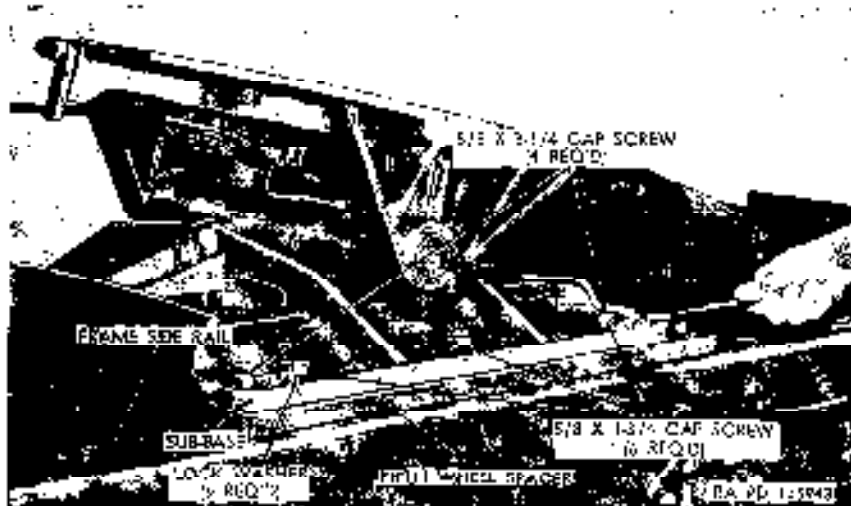
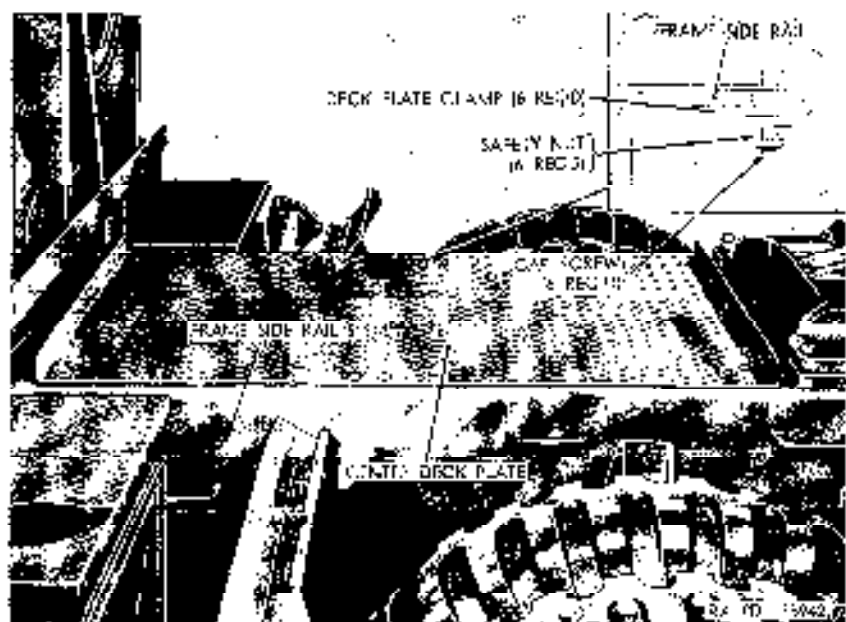

Fig. 319. Top front view of fifth wheel M52.
Figure 221. Top view of center deck plate M50.
for deck plate (Fig. 221) (M52 only). On the tractor truck M52, the approach plate and center deck plate are bolted directly to the frame left and right side rails. The fifth wheel is bolted to the side rails and fifth wheel spacers (Fig. 319), which are bolted to the side rails. On the tractor wrecker truck M248, the approach plates are a part of the crane body, and the fifth wheel is bolted to both the crane body side rails and the truck-frame side rails.
- (1) Remove six cap screws (fig. 319) and lockwashers and four cap screws and safety nuts (located on inside of frame side rails) securing fifth wheel subbase to fifth wheel spacers and frame side rails.
- (2) Using overhead hoisting equipment, remove fifth wheel from vehicle.
- (2) Install six $\frac{5}{8}$ x $1\frac{1}{4}$ cap screws (fig. 319) with lockwashers in holes in subbase and spacers, and tighten. Insert four $\frac{3}{8}$ x $3\frac{1}{2}$ cap screws through holes in subbase and spacer, install four safety nuts on cap screws, and tighten.